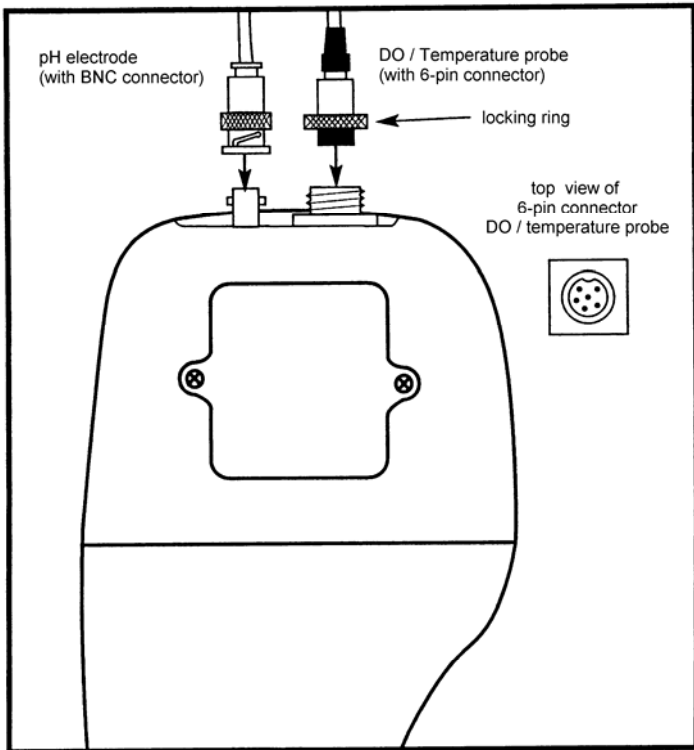

Figure 4: Connecting pH and DO/temperature probes
You can use any standard pH electrode with a BNC connector with this meter. DO probes, “3-in-1” pH electrodes with a built-in temperature element, and temperature probes require a notched 6-pin connector (see Figure 4). For replacement probes, see the Accessories section.
See Figure 4.
1. Line up the notch and 6 pins on the probe connector with the holes in the connector located on the top of the meter. Push down and turn the metal locking ring clockwise to lock the probe connector into place. See Figure 4.